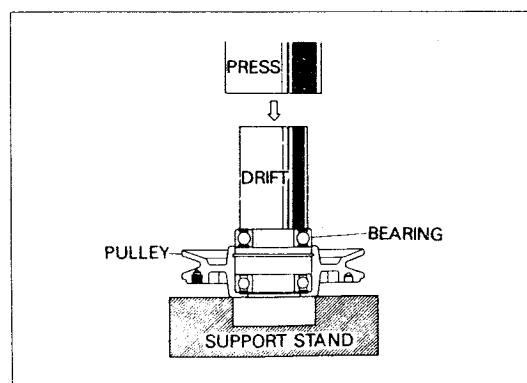

Fig. 86
- 2) Insert two pieces of new bearing into the pulley boss till fully seated. See Fig. 86.